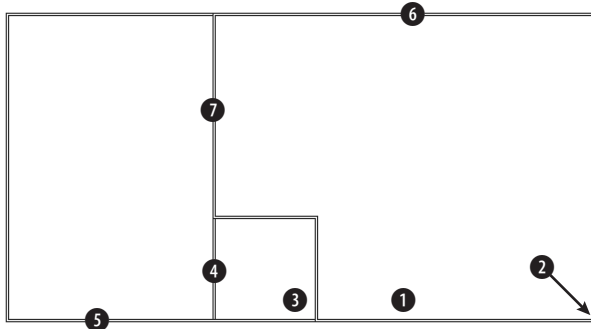

Figure 16-46: A layout of two rooms
2. Save the file as `ab16-09.dwg` in your AutoCAD Bible folder. This is a simple layout of two rooms using the Standard multiline style, as shown in Figure 16-46.
4. At the **Select mline:** prompt, choose the multiline at **1** in Figure 16-46. Press **Enter** to end multiline selection.
6. Pick the multiline at **3** and click the grip at **3** in Figure 16-46. At the **Specify stretch point or [Base point/Copy/Undo/eXit]:** prompt, move the cursor in the 180-degree direction and type **4'** ↵. Press **Esc** to see the corner.
7. Choose **Modify** ⇨ **Object** ⇨ **Multiline**. In the Multiline Edit Tools dialog box, choose **Corner Joint** and click **OK**. At the prompts, pick the multiline at **4** and **5** in Figure 16-46. Press **Enter** to end multiline selection.
8. Choose **Modify** ⇨ **Object** ⇨ **Multiline**. In the Multiline Edit Tools dialog box, choose **Cut All** and click **OK**. At the **Select mline:** prompt, pick the multiline at **6**. (The exact point doesn't matter.) At the **Select second point:** prompt, type **@3',0** ↵. At the **Select mline or [Undo]:** prompt, pick the multiline near **7** in Figure 16-46. At the **Select second point:** prompt, type **@0,-3'** ↵. Press **Enter** to end multiline selection.